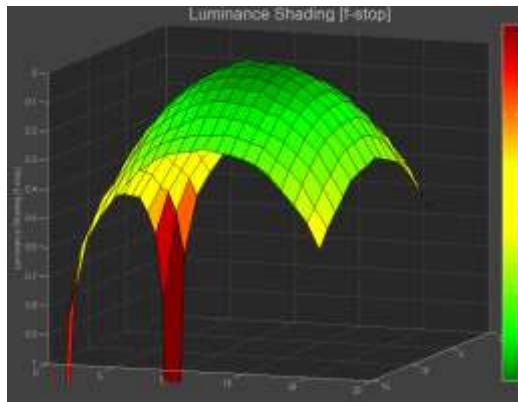
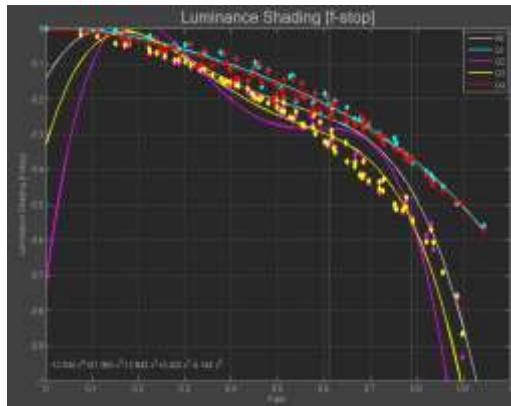

Figure 67. Umbrella-Shaped 3-D Image
Figure 68. Data Plot Image
2. If the Shading Test analysis produces an umbrella-shaped 3-D image and data plot as shown in Figure 67 and Figure 68 (press **LUMINANCE [f-stop]** and **3-D** buttons) and (press **LUMINANCE [f-stop]** and **PLOT** buttons), the shading data should be used for compensation adjustment in other analysis modules.